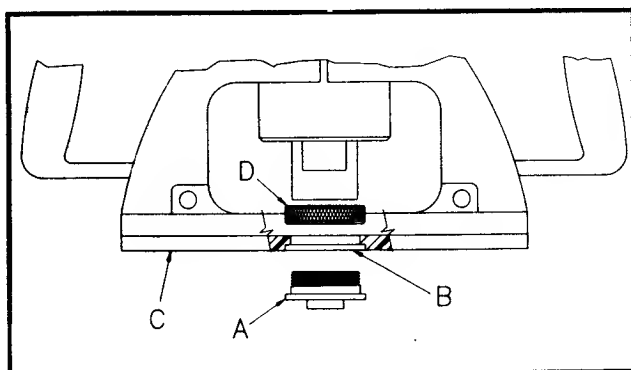
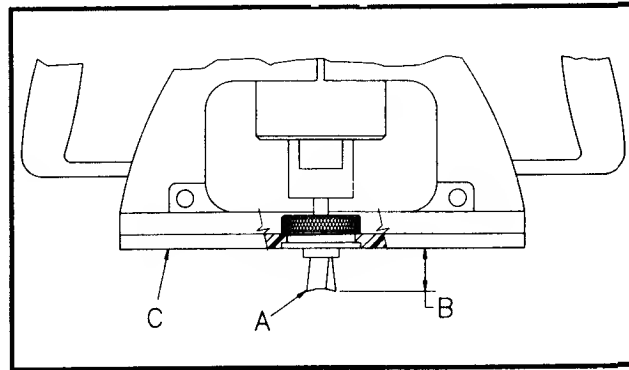

Fig. 4
Fig. 5
2. Insert templet guide, (A) Fig. 4, in hole (B), in router sub-base (C).
3. Install templet guide locknut (D) on templet guide and firmly tighten to lock templet guide in sub-base.
4. Insert dovetail bit, (A) Fig. 5, through templet guide into router collet.
5. Adjust router so dovetail bit projection (B) from bottom of router sub-base (C), is 19/32".
Prepare router the same as for 1/2" half-blind dovetails except install 42054 templet guide, 43639 bit and adjust depth of cut (B) Fig. 5, to 5/8".